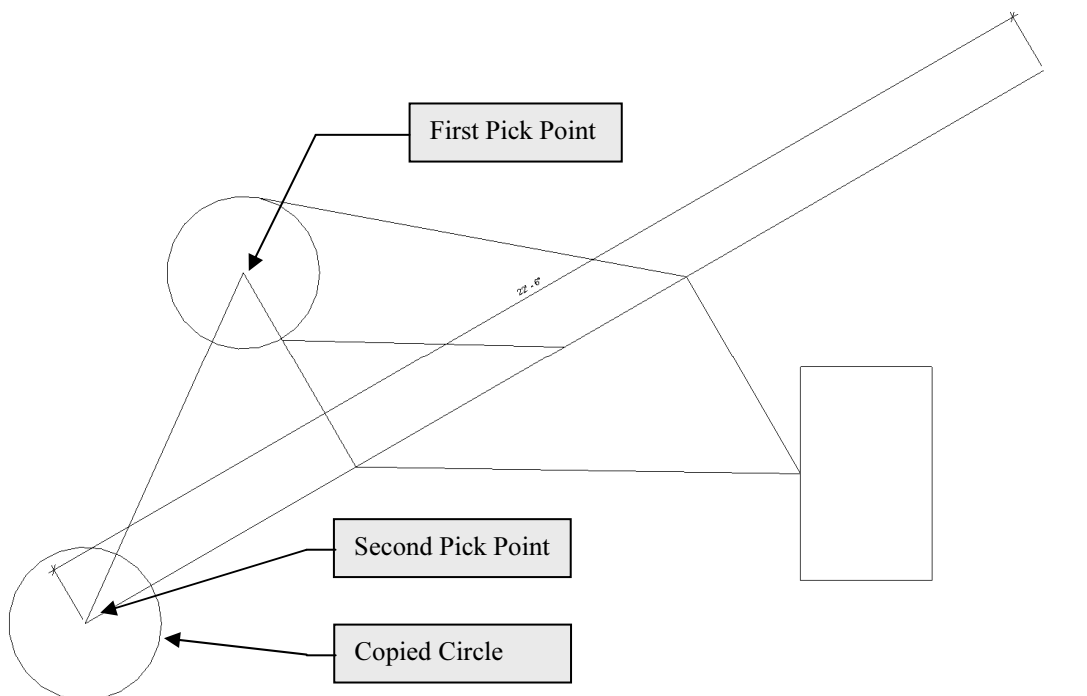

Figure 3-3.4 Copied circle; also indicates points selected
7. Pick the **Center** of the **Circle** (Figure 3-3.4).
8. Pick the Endpoint of the angled line in the lower left corner (Figure 3-3.4).